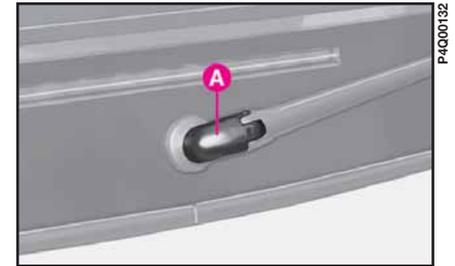
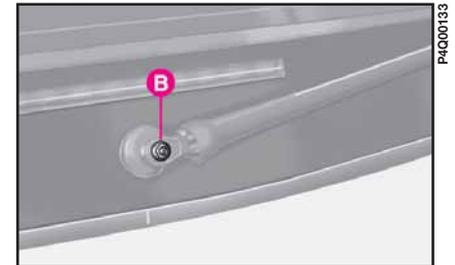

fig. 10
fig. 11
1) Lift the cover **A**-fig. 10 and dismantle the arm from the vehicle by unscrewing the nut **B**-fig. 11 which holds it onto the knuckle.